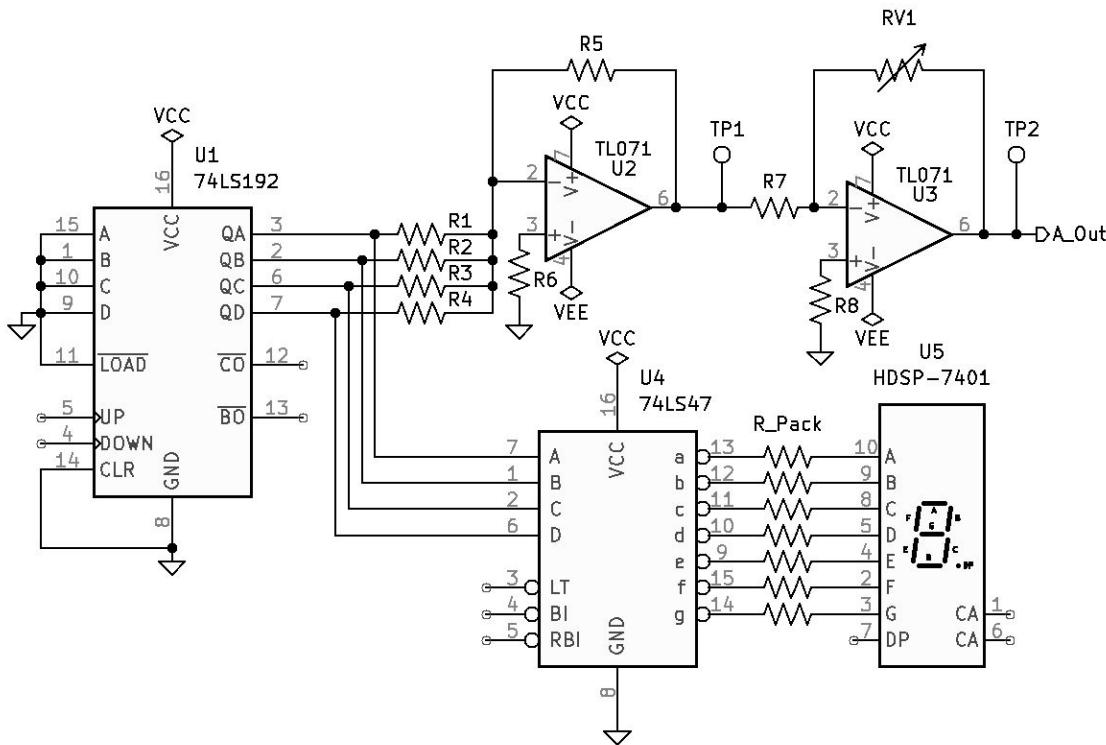

Figure 8.1: DAC Engineering Department Prototype Circuit.
1. The Engineering Department has sent you a DAC prototype circuit that they are working on. The DAC circuit is not working as expected. The Engineering Department needs you to analyze the circuit and make sure all the connections are correct. See Figure 8.1 *DAC Engineering Department Prototype Circuit* on page 82.